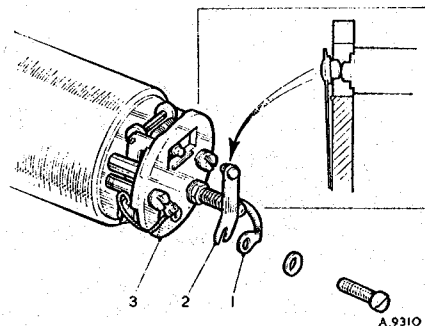

Fig. 11. Setting the correct relative position of blade and rocker contact points
24. Fit the contact blade (2) (Fig. 11) and coil lead (1) to the pedestal (3) with the 5 B.A. washer and screw. When a condenser is fitted the tag on it is placed under the coil lead tag.
25. Adjust the contact blade so that the contact points on it are a little above the contact points on the rocker when the points are closed (see Fig. 11), also that when the contact points make or break, one pair of points wipes over the centre line of the other in a symmetrical manner. As the contact blade is provided with a slot for the attachment screw, some degree of adjustment is possible.